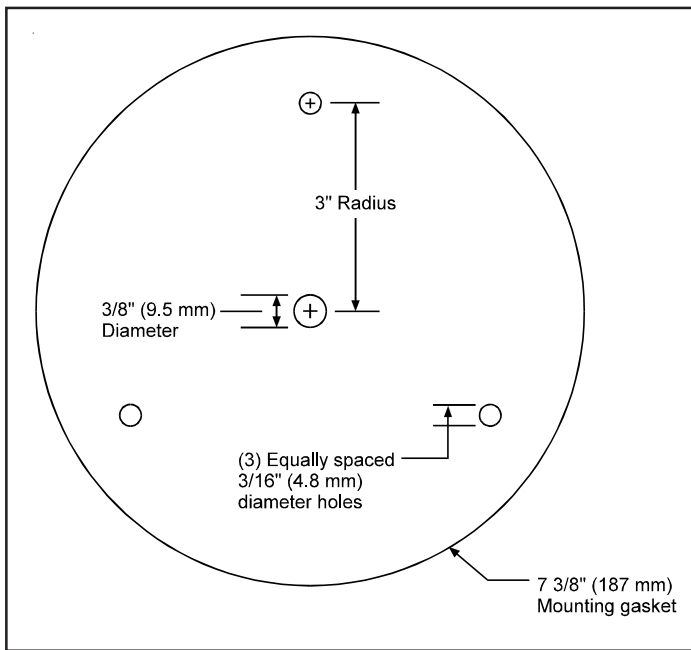

Figure 3. Mounting Gasket for Direct Surface Mounting of 97 Series Signals
- Remove the three outer knockouts from the bottom of the signal base. The location of the knockouts corresponds to the three outer holes in the gasket provided in the direct mounting hardware kit shown in Figure 3.
- Place the 7 3/8" (187 mm) mounting gasket on the mounting surface and mark the center of the four holes in the gasket on the surface. Refer to Figure 3. Remove the mounting gasket and drill a 3/8" (9.5 mm) hole at each of the marked positions.